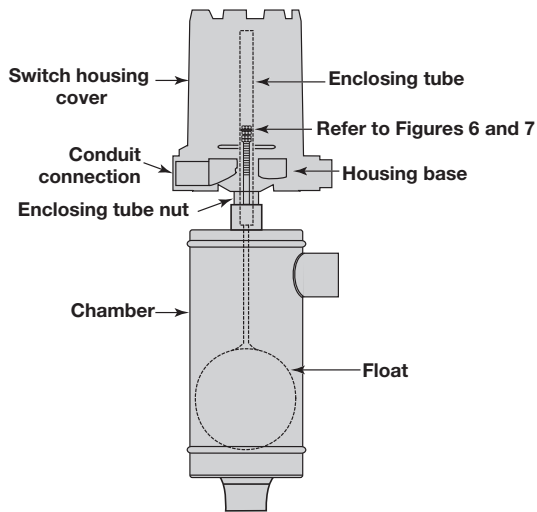

Figure 8
4. Disconnect power supply wires from switch mechanism. Pull wires out of conduit connection opening in housing base. Refer to **Figure 8**.
6. Loosen enclosing tube nut with a $\frac{1}{8}$ " wrench. Unscrew enclosing tube counterclockwise (switch and housing base will rotate also), until it is free. Refer to **Figure 8**.